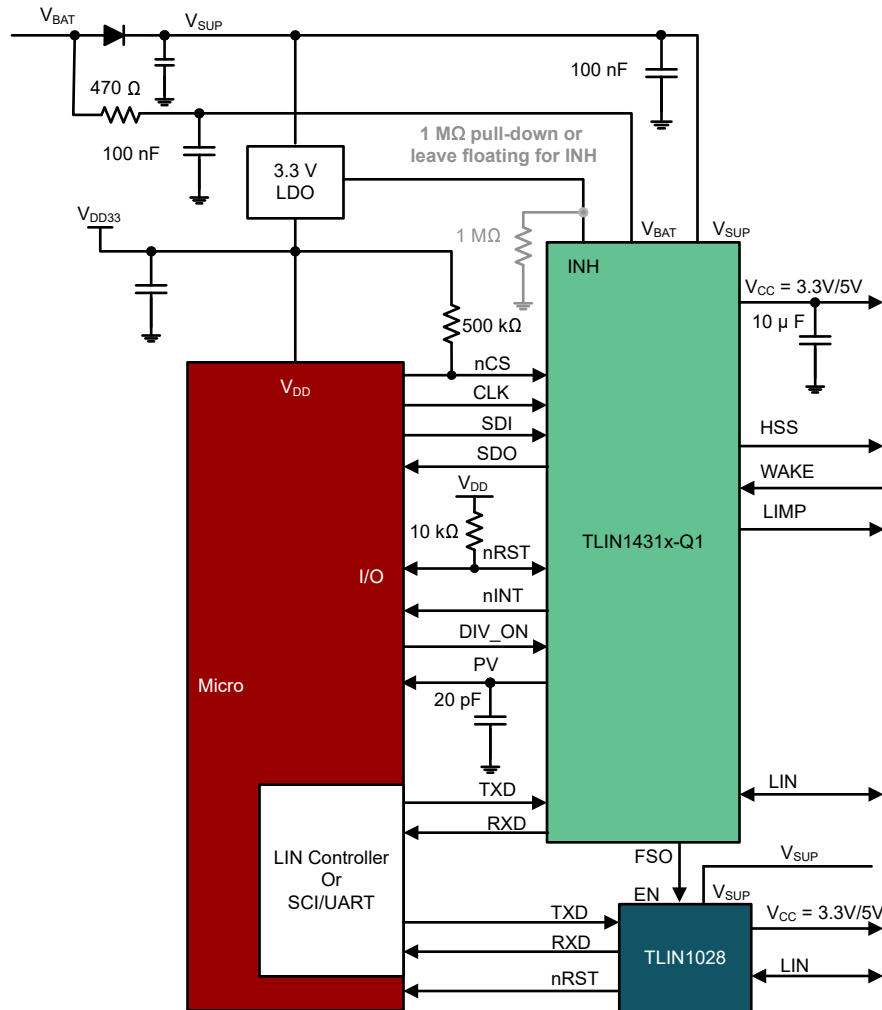

Figure 8-21. Channel Expansion: LIN SBC
- Two LIN transceivers with two LDO outputs by using an eight pin LIN SBC (see Figure 8-21)